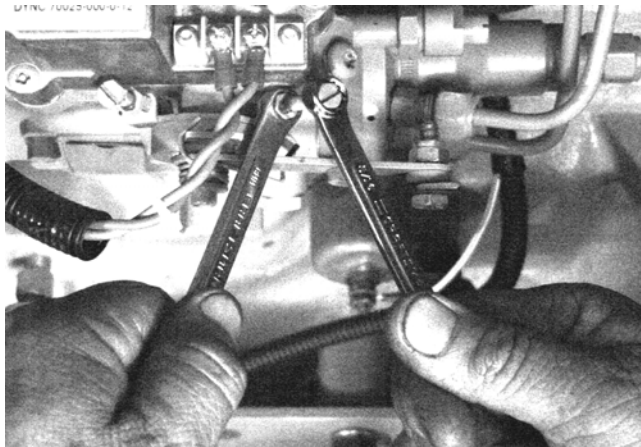

Figure 3 High Idle Adjustment Screw (Locknut)
3. Using two (2) 8-mm box end wrenches loosen the locknut of the "High Idle Adjustment Screw" while holding the adjustment screw in position (Figure 3).
5. Using two (2) 8-mm box end wrenches tighten the locknut of the "High Idle Adjustment Screw" while holding the adjustment screw in place (Figure 3).